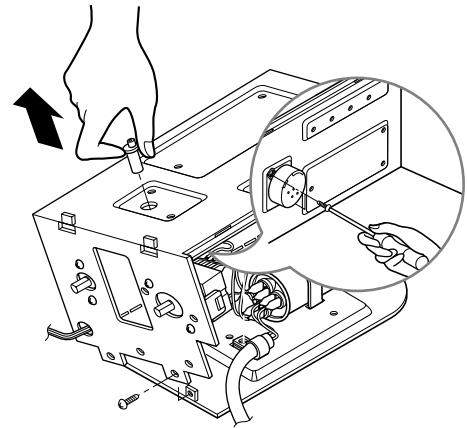

Figure 15
5. Remove the 2 screws which fasten the synchronous motor. (See Fig. 15)